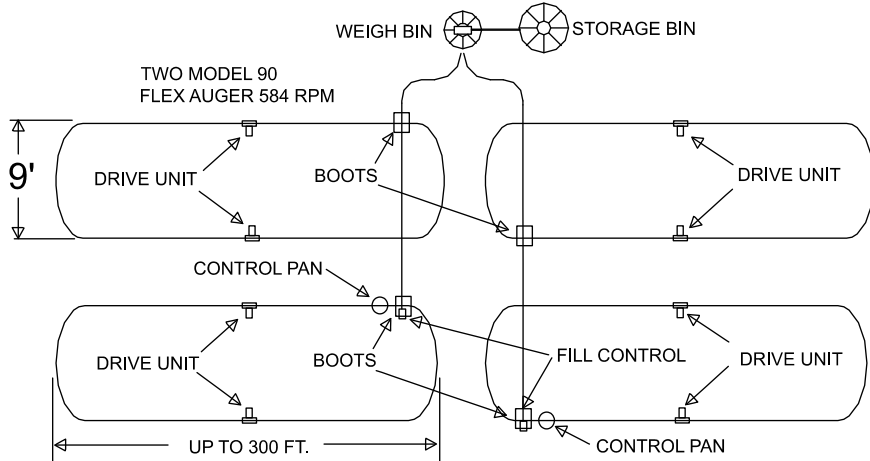

Figure 1. Pullet Feeder Planning
Figure 1. shows a house with two feeder loops. The line lengths specified for determining power unit placement refer to the distance between the elbows. However, the total system length = line length x 2, plus the elbows (including the tube between the elbows)
For line lengths up to 300' [X m], two (2) power units are recommended. The power units should be evenly spaced opposite each other. The power units should be placed in positions "B" and "E", see figure 1.
For line lengths from 301' to 450' [X m], three (3) power units are recommended. To determine the proper placement of the power units, add the total length of the system, including 3' [1 m] for each 90 degree end section and divide by three (3). This will give an approximate distance between power units, round up or down to the nearest suspension drop line. These power units should be staggered (two on one side, one on the other side). The power units should be placed in positions "A", "C", and "E", **see figure 1.**
For line lengths from 451' to 600' [X m], four (4) power units are recommended. To determine the proper placement of the power units, add the total length of the system, including 10' [3 m] for each 90 degree end section, and divide by four (4). This will give an approximate distance between power units, round up or down to the nearest suspension drop line. The power units should be placed in positions "A", "C", "D", and "F", **see figure 1.**